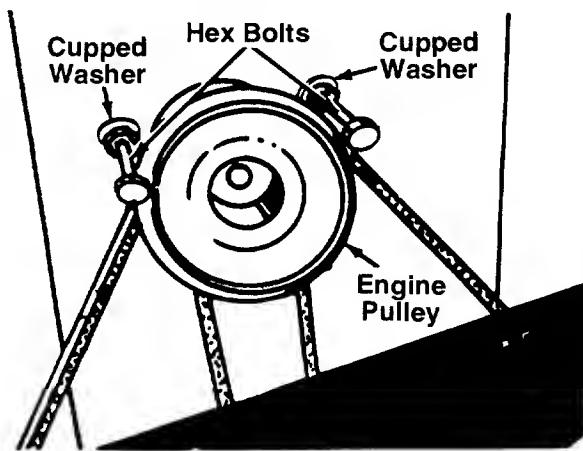

FIGURE 19.
NOTE: Figures 19, 23 and 24 are shown with the unit tipped up for clarity. It is not necessary to tip the unit to remove the belts.
2. Remove the hex bolts (belt keepers) and cupped washers from the engine pulley belt guard. See figure 19.
NOTE: When reassembling, make certain hex and cupped washers are assembled in the same locations from which they were removed. See figure 19.
- Remove the hex bolts (belt keepers) and cupped washers from the engine pulley belt guard. Refer to figure 19.
NOTE: Make certain hex bolts are reassembled as shown in figure 19.